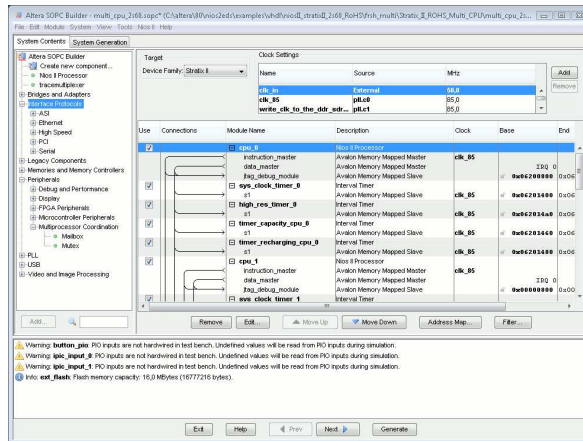

Figure 1.8: The list of SOPCBuilder components composing this demo.
21. Figure 1.8 shows the various components and the interrupt connections (the picture was taken after removing all the errors in the bottom part of the window as discussed in the following paragraphs). The following paragraphs discuss the settings of the “Board Settings” and the “Nios II CPU Settings” tabs of SOPCBuilder.